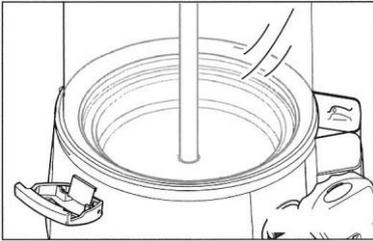

Fig. 34
5. In Fig. 34 a correctly fixed tank is shown; it rests evenly along the entire edge of the base.